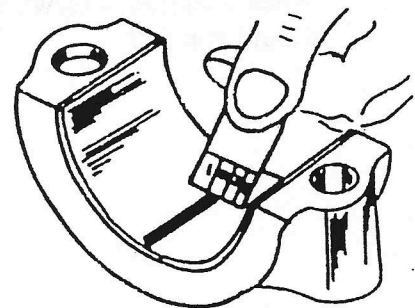

FIGURE 2
5. Compare the width of the flattened Plastigage at its **WIDEST** point with the graduations on the envelope. (Figure 2.) within the graduation on the envelope indicates the bearing clearance in thousandths of an inch or in millimeters depending which side of the envelope is used. **TAPER** is indicated when one end of the flattened Plastigage is wider than the other each end of the flattened Plastigage. The difference between the readings is the approximate amount of taper.